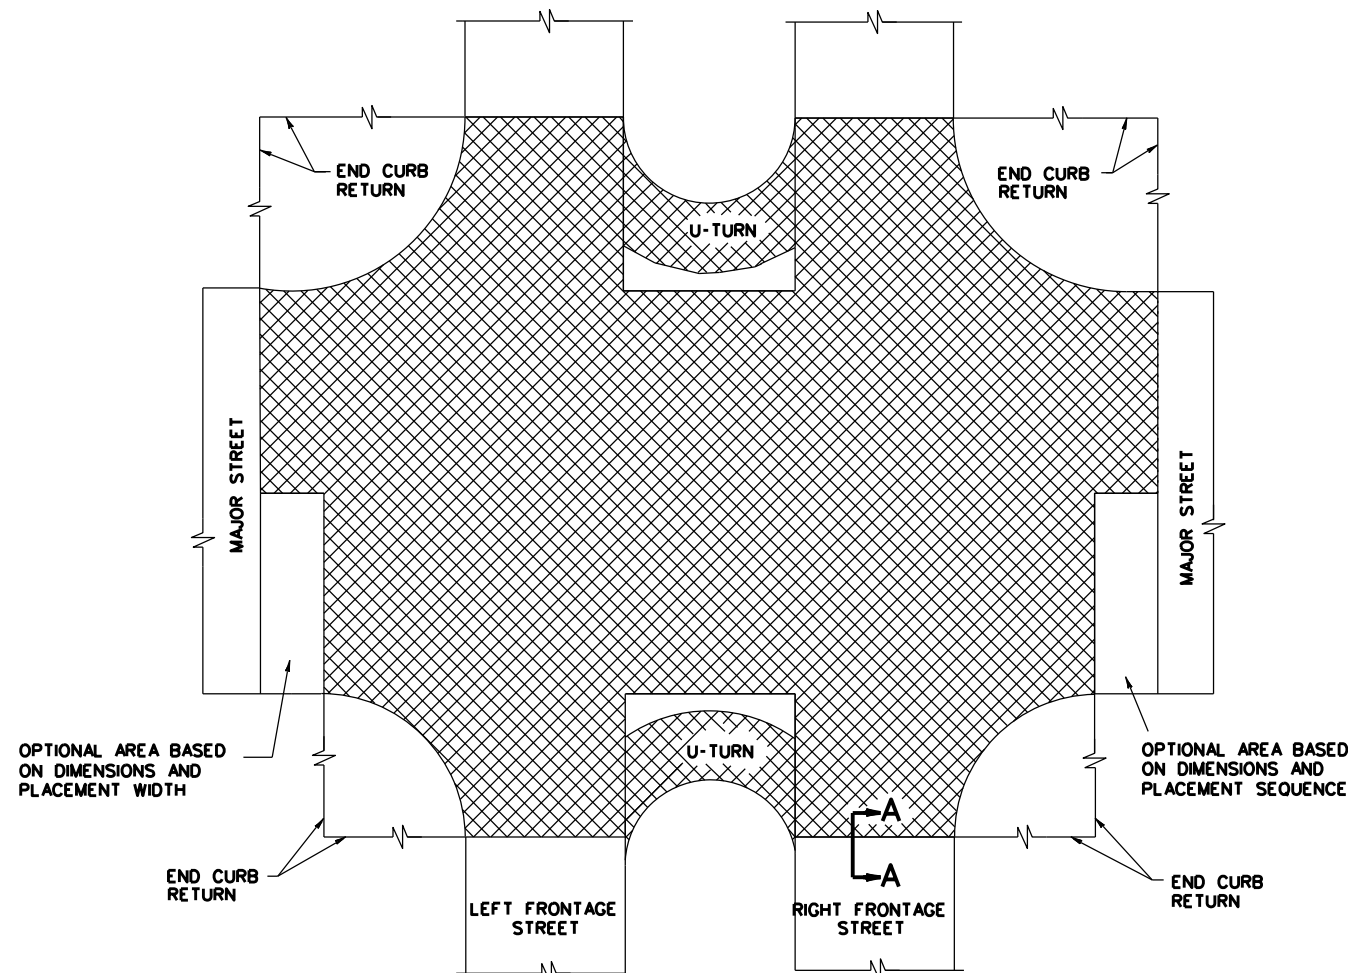

FIGURE 2
3. THE REQUIRED FAST TRACK PAVING AREAS WILL BE SHOWN ON THE PLANS. THE CONTRACTOR HAS THE OPTION TO UTILIZE FAST TRACK CONCRETE PAVING AT U-TURNS, AT INTERSECTIONS, AT MINOR STREETS, AND AT DRIVEWAYS WITH FRONTAGE ROAD LEAVE-OUT AREAS THAT ARE NOT SHOWN ON THE PLANS, WITH PRIOR WRITTEN APPROVAL FROM THE ENGINEER. TYPICAL PAVING PLANS FOR THE INTERSECTION OF A MAJOR STREET WITH THE FRONTAGE ROAD ARE SHOWN AS FIGURE 2, AND FOR THE INTERSECTION OF A MINOR STREET OR DRIVEWAY WITH THE FRONTAGE ROAD AS FIGURE 3. FAST TRACK PAVE THE FRONTAGE ROAD FOR THE FULL FRONTAGE ROAD WIDTH AND PLACE IN STAGES AS REQUIRED.
4. USE ADDITIONAL #6 REINFORCING STEEL BARS (MINIMUM 42 INCHES LONG) AND SPACE THEM MIDWAY BETWEEN ALTERNATE LONGITUDINAL BARS ALONG THE TRANSVERSE CONSTRUCTION JOINT FORMED AT THE FAST TRACK PAVING INTERFACE (T_{FS} WITH THE ADJACENT PAVEMENT SLAB (T).